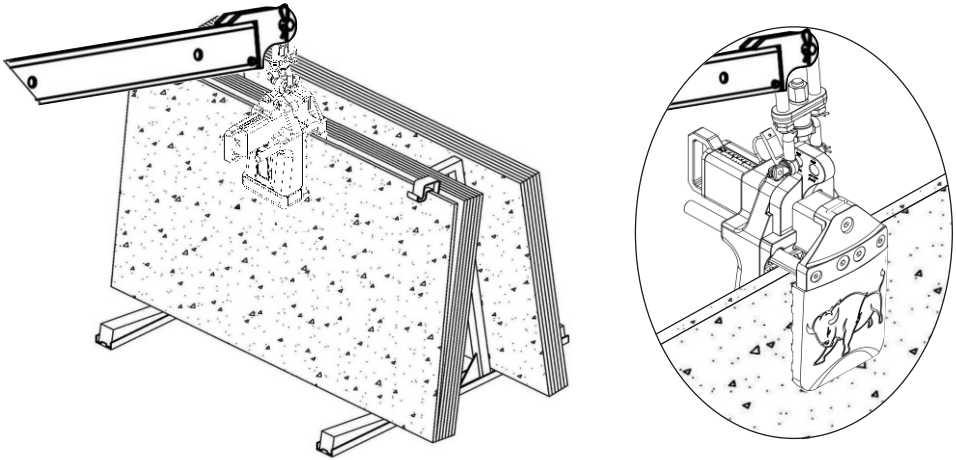

Figure 5.1
- Lowering the lifter to be perpendicular to the slab and place at the center of the slab (Figure 5.1).